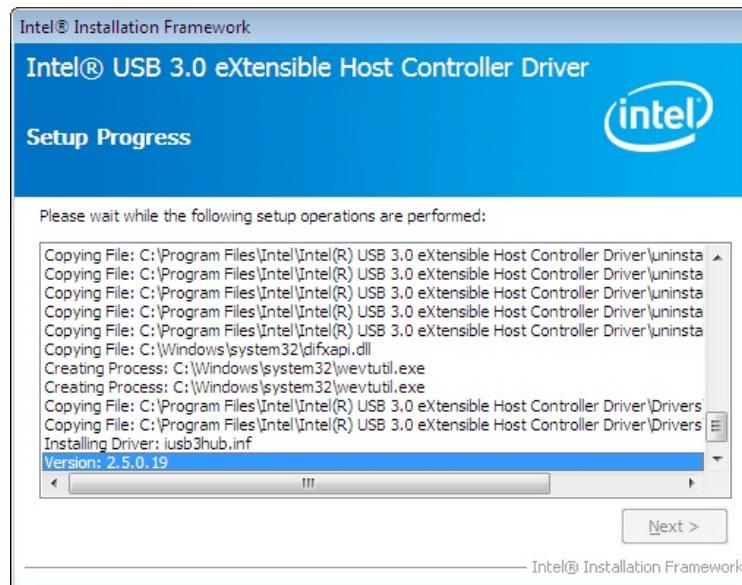

Figure 6-22: USB 3.0 Driver Setup Operations
Step 9: Setup Operations are performed as shown in **Figure 6-22**.